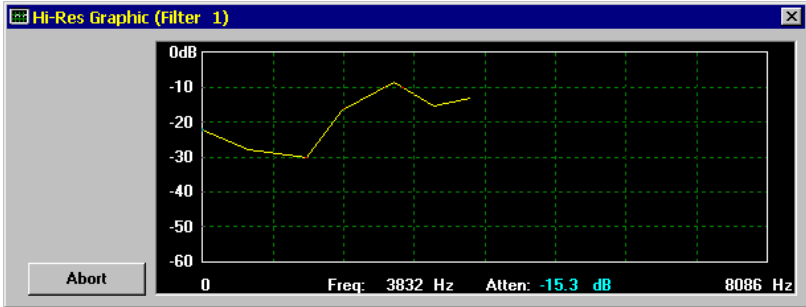
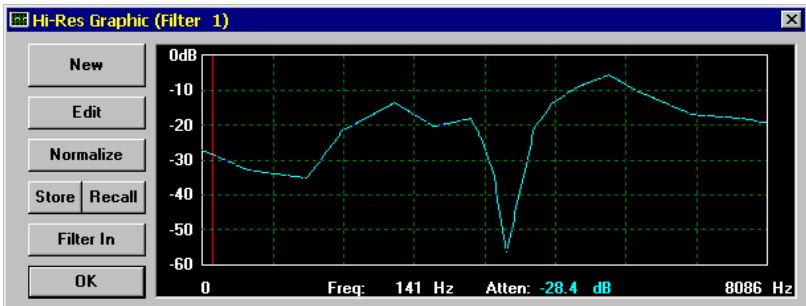

Figure 4-45 Hi-Res Graphic Draw in Progress
Figure 4-46 Completed Hi-Res Graphic Draw
For this example, placing points at precise frequencies and attenuations is not required; draw the curve approximately as shown in Figure 4-45 using mouse clicks.
5. Complete drawing the filter curve as shown below (Figure 4-46) by drawing points all the way to the right edge of the filter display area.
6. Suppose you decide that you would like to remove the "dip" which occurs in the filter curve at approximately 3000 Hz in Figure 4-46, above. Click on **Edit** to bring up the following display (Figure 4.45):